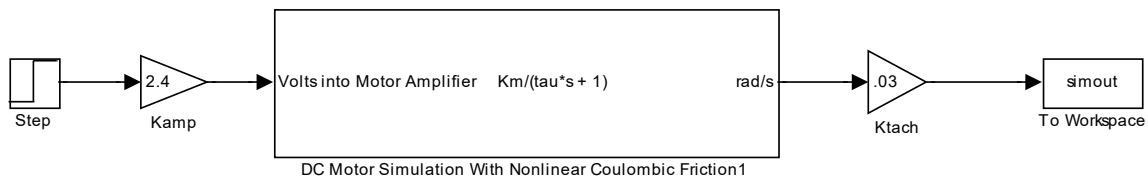

Figure 2 - Simulink Model for DC Motor Simulation
Start by simulating the motor transfer function found in the post lab questions of Lab 2. Use Figure 2 and the steps below to build a Simulink simulation of the motor.
- 12) Now connect the boxes so they match Figure 2. To connect them use the small arrows on the edges of each block. Left click on them and drag the connection to the next block.
- 13) Double click on each box and change the values so they match Figure 2 and these items below:
The goal of this section will be to estimate the values for K_m and τ_m by analyzing the response of the motor to a step input voltage. You will be implementing the block diagram in Figure 2 with your actual motor. A step function will be input to the motor, and the signal from the tachometer will be observed. Remember that the voltage of the tachometer is proportional to the angular velocity of the motor. You will also use this step response data to estimate the coulomb friction acting on the motor.